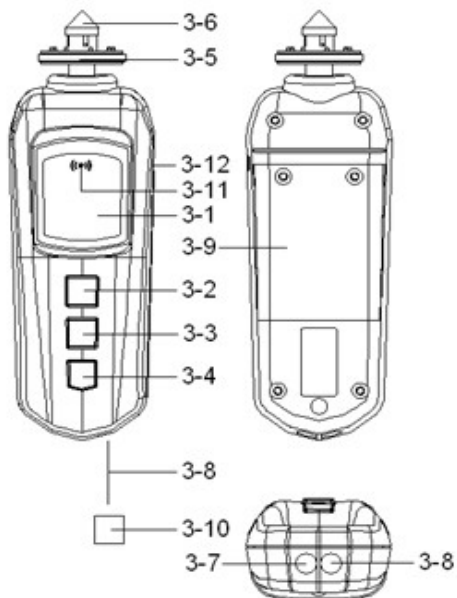

Fig. 1
- 1) Short press the " TEST(Power) Button " (3-2, Fig. 1) once, the meter will power ON,
- 2) Short Press " Function Button " (3-3, Fig. 1) momentarily in sequence, the function will change to
- e. Photo RPM measurement, display shows " RPM " symbol, at the same time the " Laser Light Beam " (3-8, Fig. 1) will be generated.
- 2) Align the " Laser Light Beam " (3-8, Fig. 1) with the applied target. Verify that the " Monitor Indicator " (3-11, Fig. 1) lights when the target pass through the light beam.
- 2) Lightly pressing the " RPM Adapter " (3-6, Fig. 1) against the center hole on the hole of the measured rotating axis.
- 2) Simply attaching the " Surface Speed Wheel " (3-5, Fig. 1) to the detector. reading stabilizes (approx. 2 sec.).
- a. First press and hold the " Memory Button " (3-4, Fig. 1) - To display the last value (" LA " and " the last value " will be displayed alternately).
- * To change the batteries, open the " Battery Cover " (3-9, Fig. 1).
- * Make sure the " Battery cover " (3-9, Fig 1) is secured after changing the batteries.
The instrument has RS232 PC serial interface via a 3.5 mm terminal (3-12, Fig. 1).